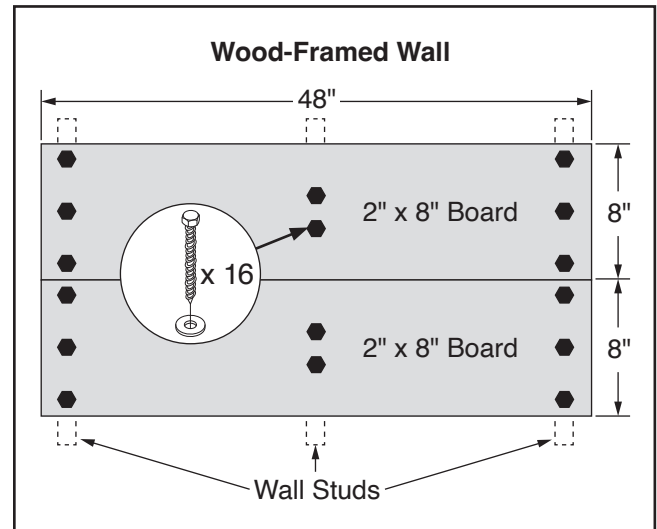

Figure 19. Wall mounting board layout.
2. Attach (2) 2" x 8" mounting boards to wall studs using (16) $\frac{3}{8}$ " x 5" lag bolts and (16) $\frac{3}{8}$ " flat washers (see **Figure 19**).